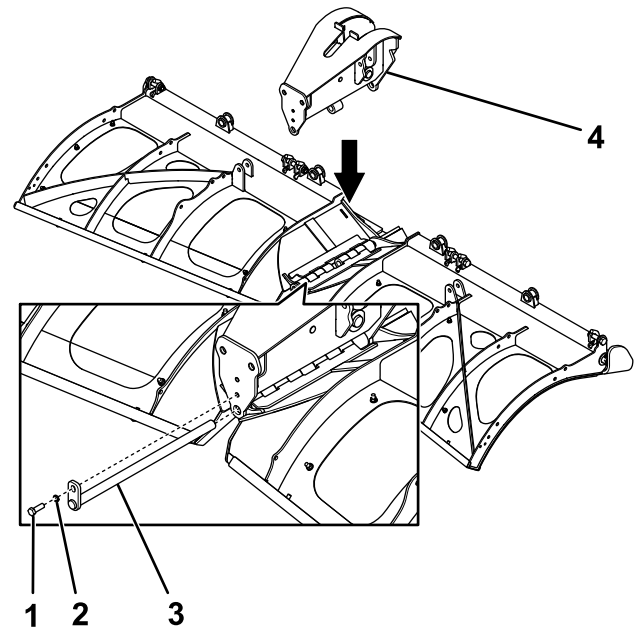

Figure 4
2. Insert the blade center between the blade hinges and secure all 3 pieces together with the center hinge pin, split lock washer (1/2 inch), and hex-head lock bolt (1/2 inch) with nylon lock patch (Figure 4).